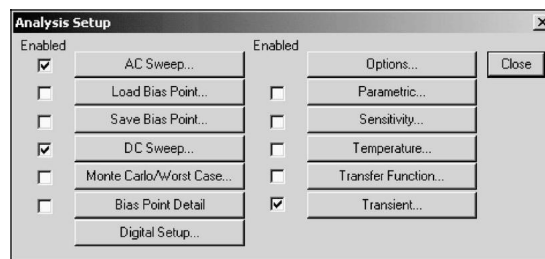

Figure 2.1: Analysis Setup in PSpice Schematics version
- Noise generation at an output node for every frequency (.NOISE) In Schematics versions, the commands are invoked from the setup menu, as shown in the figure 2-1.